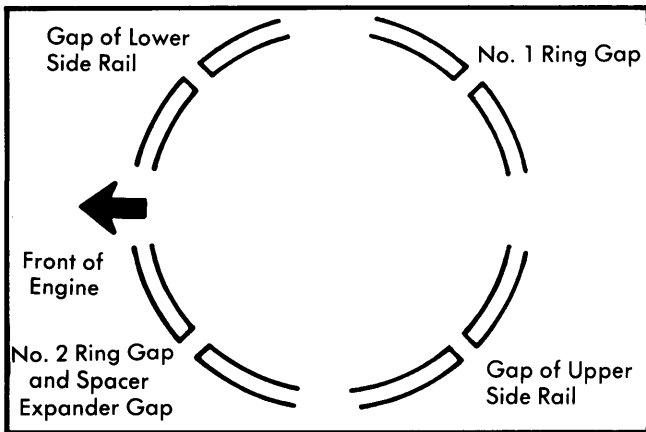

Fig. 6 Piston Ring Gap Positions
2) Install rings on pistons with end gaps staggered at 120° intervals, but make sure no ring gap is in line with thrust face of pin bore. See Fig. 6. Also be sure the manufacturer's marks are facing upward when rings are installed.